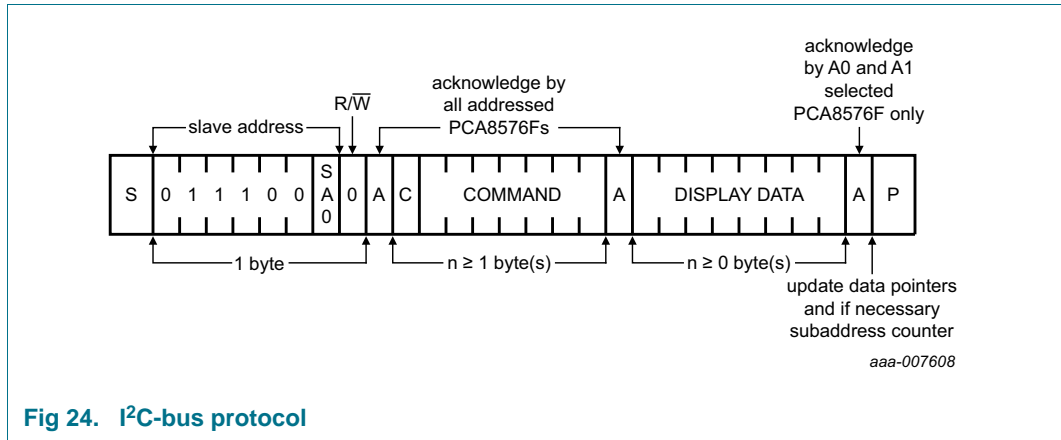

Fig 24. I²C-bus protocol
The I²C-bus protocol is shown in Figure 24. The sequence is initiated with a START condition (S) from the I²C-bus master which is followed by one of two possible PCA8576F slave addresses available. All PCA8576Fs whose SA0 inputs correspond to bit 0 of the slave address respond by asserting an acknowledge in parallel. This I²C-bus transfer is ignored by all PCA8576Fs whose SA0 inputs are set to the alternative level.